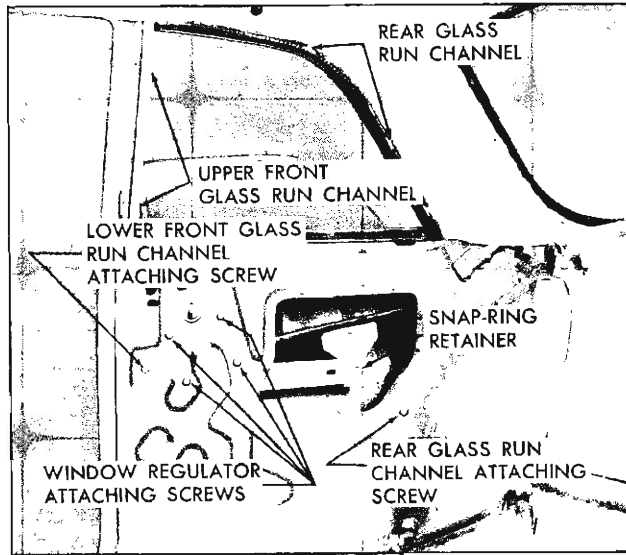

Fig. 67—Rear Quarter Hardware Attachment—11 Styles—Manual
2. Remove snap ring retainer securing regulator lift arm to pivot pin on window lower sash channel (fig. 67).
- a. Operate the window to the "full up" position and loosen the window regulator attaching screws (fig. 67).
- a. Loosen rear glass run channel attaching screw (fig. 67).
4. Remove regulator attaching screws (fig. 67) and remove regulator through access hole.
2. Remove lower front glass run channel attaching screw (fig. 67) and remove run channel through access hole.
2. Remove rear glass run channel attaching screw (fig. 67).
2. Disengage window assembly from regulator lift arm by removing snap ring retainer (fig. 67).